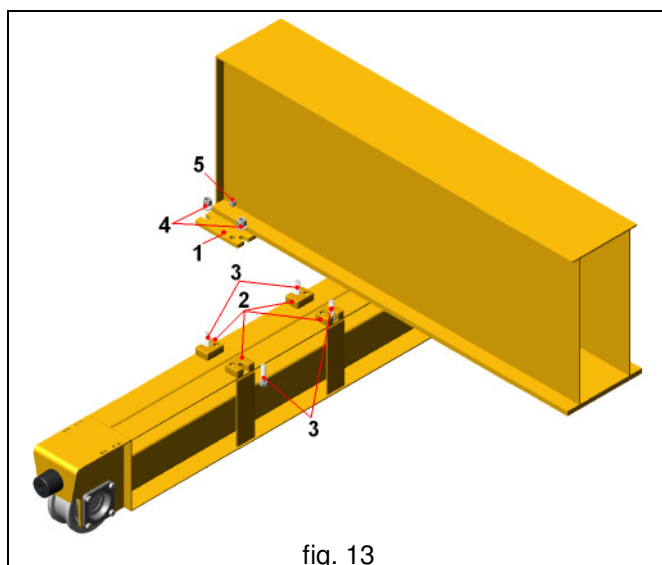

fig. 13
- **A = Beam connection in “supported” connection (fig. 13)**
1. Set the girder alongside the beam, allowing the slots on the cross-plate (1) to match those on the blocks (2);
2. Insert the screws (3) into the support blocks (2);
3. Screw on and set the nuts (4) without tightening them, to allow the insertion of the centring pins (5);